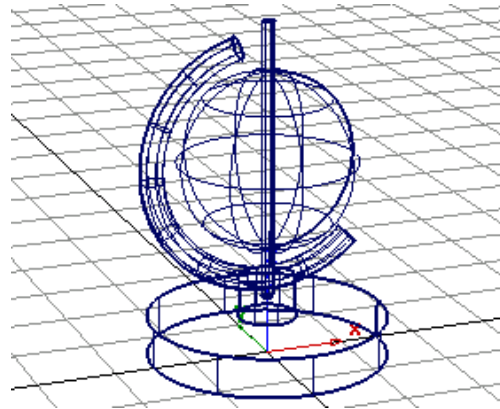

Figure 2-110 Model after scaling the axial rod
2. Enter **15, 15, 350** in the promptline and press ENTER; the axial rod is scaled, as shown in Figure 2-110.